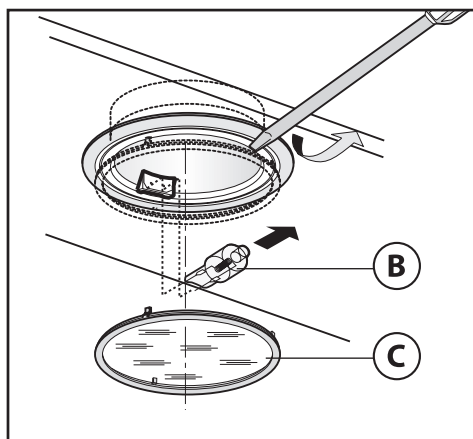

Fig.8
4.2 Replacing halogen light bulbs (Fig.8):